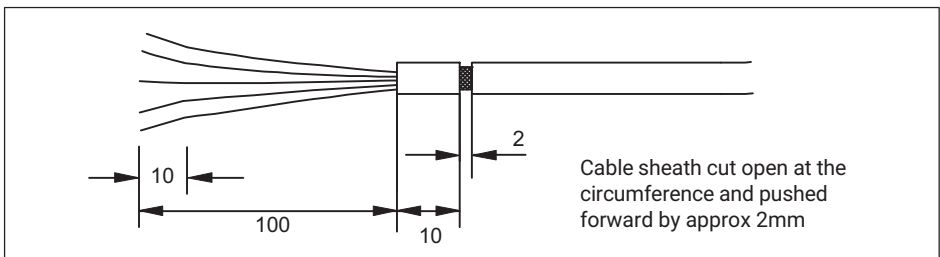

Fig. 8.1 Slit cable sheath
4. You can get to the screen through a slit in the cable sheath (*see Fig. 8.1*).